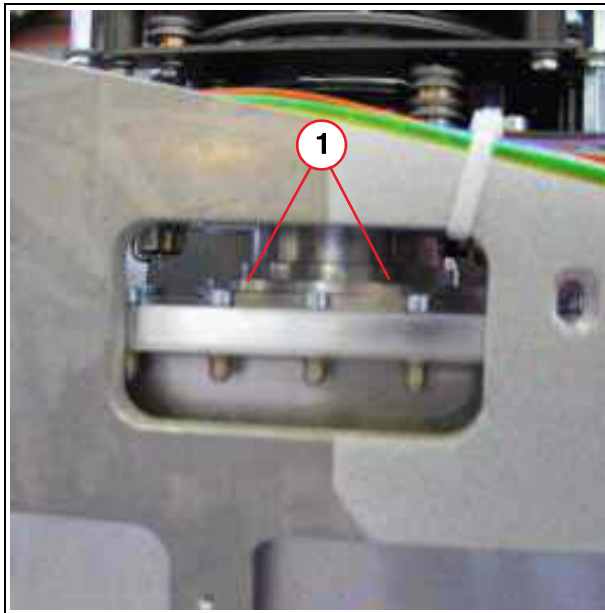

Fig. 19: Collimator\_mount
2. Remove the 2 ISK screws (1/Fig. 19 / p. 39) from both sides of the collimator cut-outs and remove the collimator.